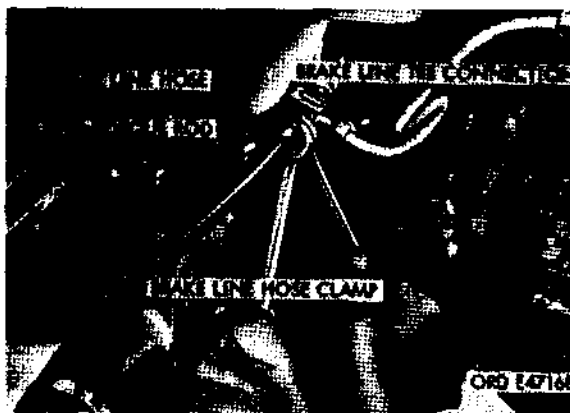
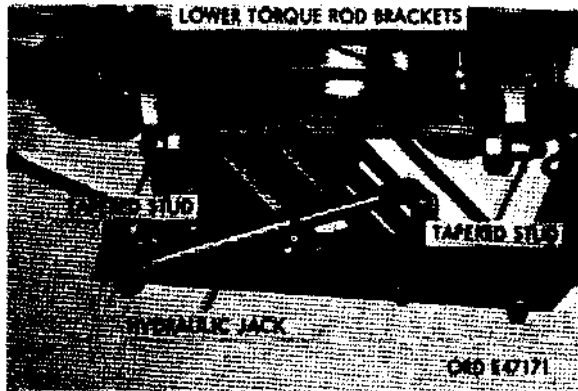

Figure 378. Disconnecting hydraulic brake line hose
Figure 381. Lower torque rods disconnected
- (2) Remove wheel and tire assemblies from both ends of axle assembly to be removed (TM 9-2320-211-20).
- (3) Unscrew connector securing brake-line hose to tee connection at frame rear suspension cross member, and remove line from tee (fig. 378). Re-
rod from bracket. Repeat above operation to remove left torque rod from bracket on underside of left end of axle housing. Refer to figure 381.
- (1) With forward rear axle supported by hydraulic jack in lowered position, push jack and axle assembly under side of truck. Raise axle on jack until front ends of rear springs are alined with spring guide brackets on top of axle housing. Push axle toward rear of truck so that spring ends enter guide brackets.
- (2) Remove wire securing brake-line tee mounting bracket and left-rear-torque rod bracket bolt to torque rod. Remove bar securing upper torque rod in raised position. Position torque rod bracket on top of axle housing. This will secure axle in position and permit removal of hydraulic jack. Lower hydraulic jack and remove from under truck. Install the two front bolts and the right rear bolt in torque-rod bracket holes. Install clamping plate on bolts from underside of axle housing and install four lockwashers and nuts on the four bracket mounting bolts. Tighten nuts.
- (3) Insert tapered stud at front end of lower right torque rod through torque rod bracket on underside of axle housing. Install slotted nut on stud and tighten nut to 350 to 400 pound-feet torque. Install cotter pin in end of stud. Repeat above operations to connect lower left torque rod to bracket on underside of left end of axle housing. Refer to figure 381.
- (4) Connect adapter flange on rear end of transfer to-forward-rear-axle propeller shaft to companion flange at front of forward-rear axle differential (par. 262). Connect adapter flange of front end of forward-rear-axle-to-rear rear-rear-axle propeller shaft to companion flange on rear of forward-rear axle differential.
- (5) Position brake line at tee connection on frame rear suspension cross member and tighten connector. Position brake hose on upper torque rod and install two clamps. Refer to figure 378.
- (6) Bleed rear wheel brakes. Refer to TM 9-2320-211-20.
- (7) Install wheel and tire assemblies. Refer to TM 9-2320-211-20.
- (8) Lubricate axle assembly and propeller shaft universal joints. Refer to LO 9-2320-211-20.
- (9) Raise rear end of truck, remove support stand under each spring seat, and lower rear end of truck.